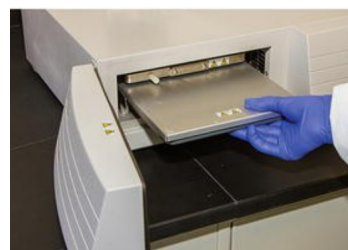

Figure 8: Hybridization Oven
9. Insert hybridization tray containing slides into hybridization oven and **incubate at 40°C following the guidance in the table below** (Table 11)(Figure 8).